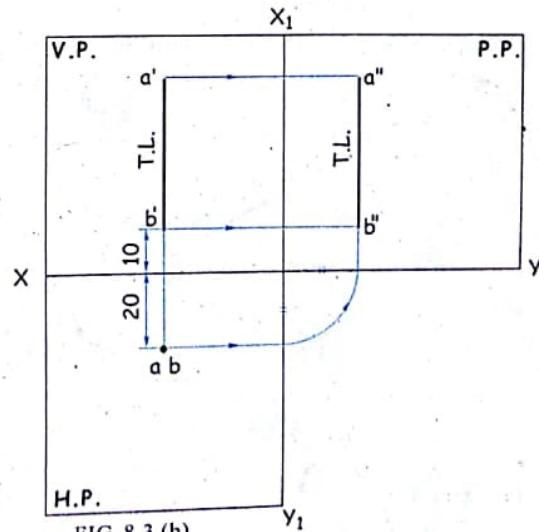

FIG. 8.3 (b)
1. The end points  $A$  and  $B$  of line  $AB$  are projected on the V.P., the H.P. and the P.P. giving the projections F.V. ( $a'b'$ ), T.V. ( $ab$ ) and S.V. ( $a''b''$ ) as shown in figure 8.3 (a).